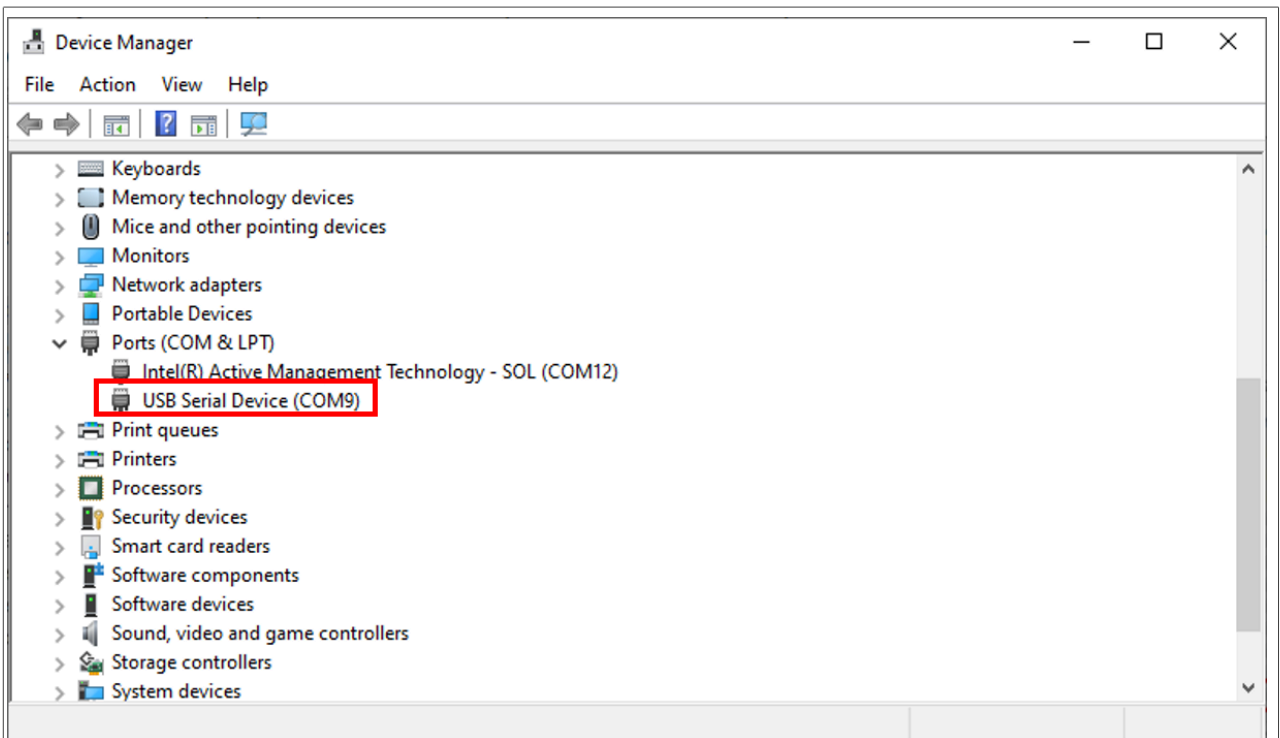

Figure 42. Retrieve VCOM port number
- 4. You should now see the VCOM port number in the device manager as shown in Figure 42: